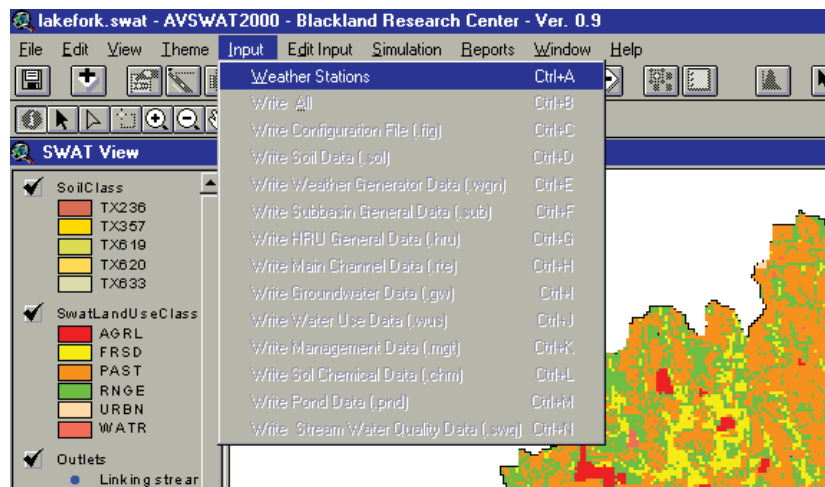

Figure 15.37
1. To load the example weather data, click **Weather Stations** under the **Input** menu (Figure 15.37).